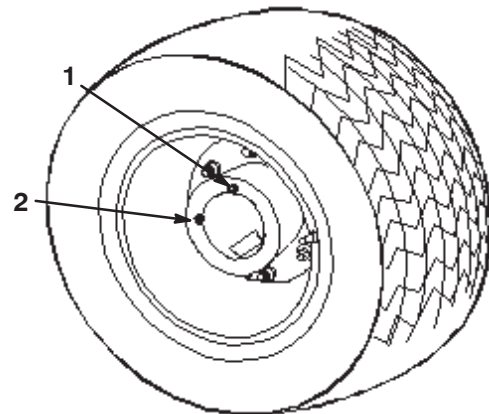

Figure 46
6. Move the vehicle slowly until the wheel is positioned for filling as illustrated in Figure 46.